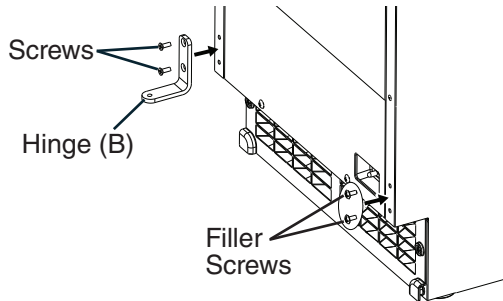

**Fig. 11**
- a) Contact your local distributor to purchase Hoshizaki Kit HS-0229. The kit contains "hinge (A)-left."
- b) Remove the 2 bolts securing the top panel, then lift it off. See Fig. 11.